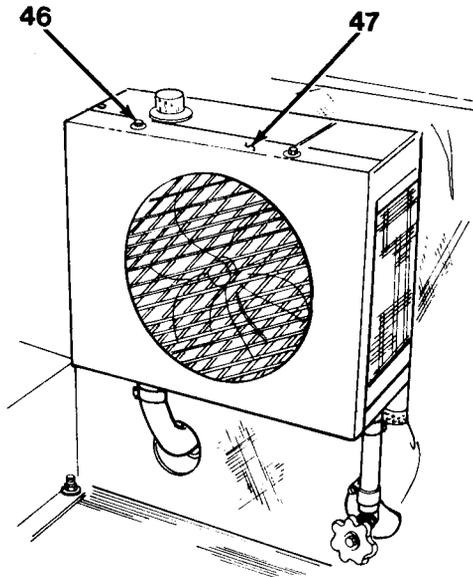
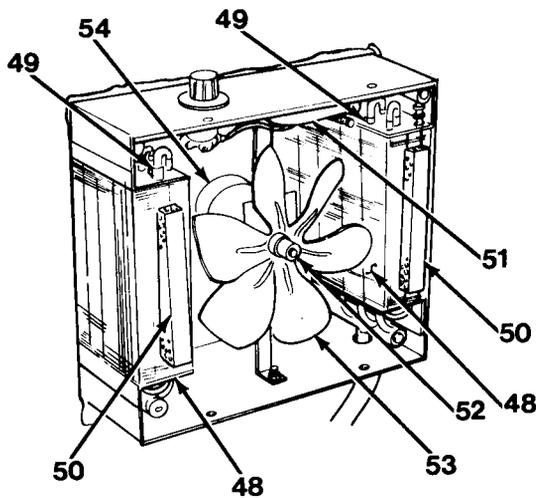
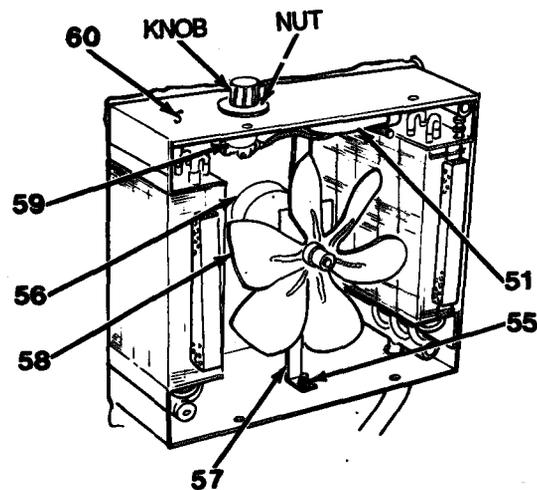

Figure 17-8
Figure 17-9
Figure 17-10
1. Remove four screws (46) and cover assembly (47, Figure 17-8).
2. Remove two heater cores (48), clamps (49), pads (50) and hose (51, Figure 17-9) as an assembly.
3. Remove two pads (50), clamps (49) and hose (51) from two heater cores (48).
4. Loosen setscrew (52) and remove fan (53).
5. Disconnect wire assembly (54).
6. Remove two screws (55, Figure 17-10).
7. Remove motor (56) and motor support (57) as an assembly.
8. Remove two nuts (58) and motor (56) from motor support (57).
9. Pull knob off of switch assembly (59) and remove nut. Remove switch assembly (59) from casing assembly (60).
1. Install switch assembly (59) in casing assembly (60, Figure 17-10) and secure with nut. Install nut on switch assembly (59).
2. Install motor (56) and two nuts (58) on motor support (57).
3. Install motor (56) and motor support (57) as an assembly.
4. Install two screws (55).
5. Connect wire assembly (54, Figure 17-9).
6. Install fan (53) and align setscrew (52) with flat side of motor (56) shaft. Tighten set-screw (52).
7. Install hose (51) and two clamps (49) to two heater cores (48).
8. Install two pads (50).
9. Install two heater cores (48), pads (50), clamps (49) and hose (51) as an assembly.
10. Install cover assembly (47) and four screws (46, Figure 17-8).